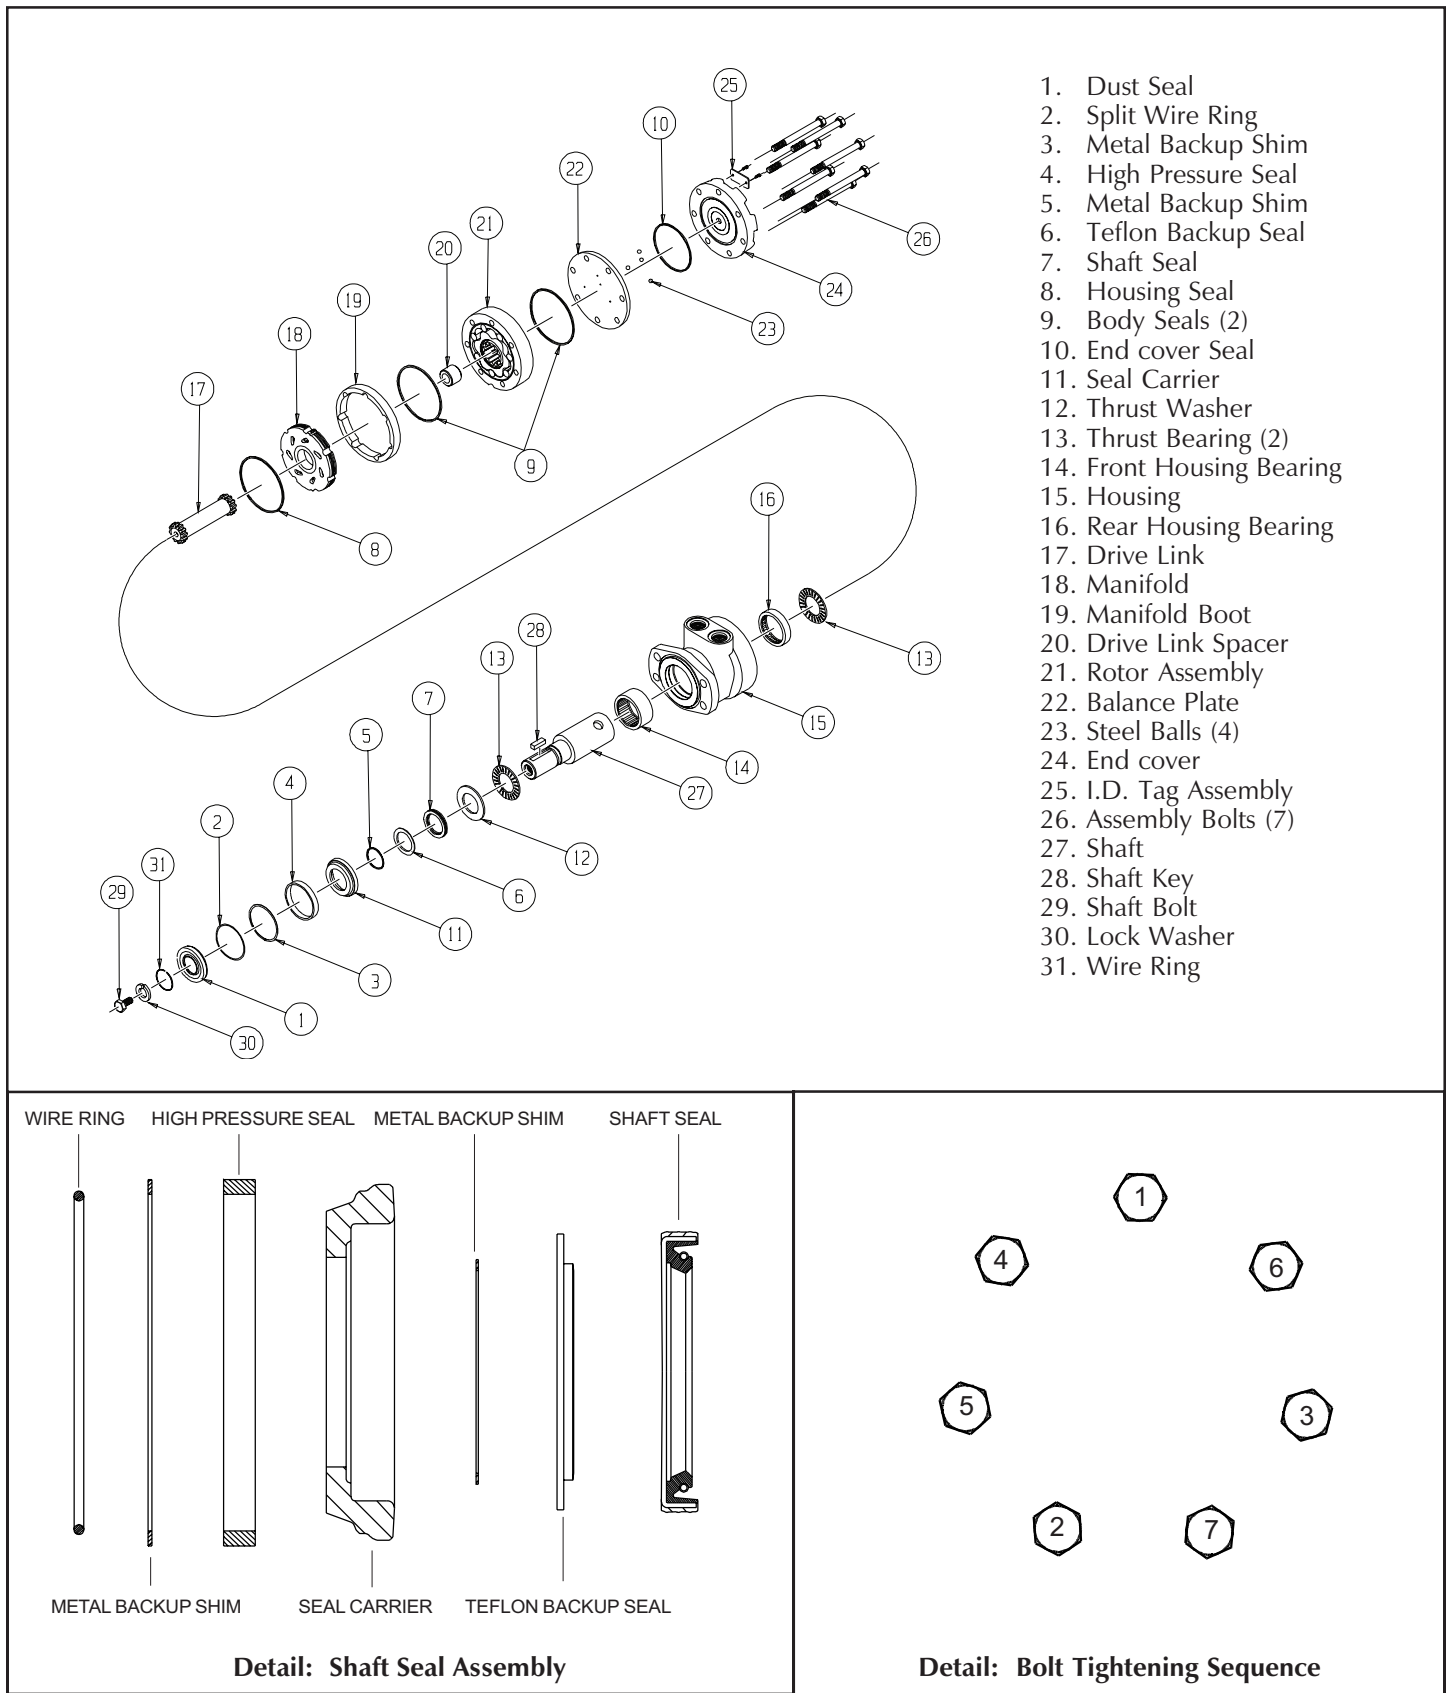

Figure 4-16: Rear Drive Motor Assembly
### *Seal Replacement, Rear Motor (Figure 4-16)*
**Note:** During seal replacement steps, do not use sharp edged tools to avoid cutting the seals. After assembling all seals, allow at least one hour for the seals to elastically restore to their original shape before assembly. Refer to Figure 4-16 for component identification and placement.